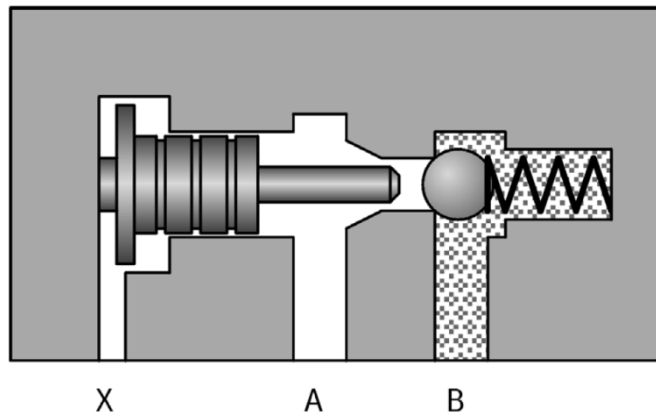

FIG 12.
- Flow is blocked from ports "B" to "A". (Fig 12)